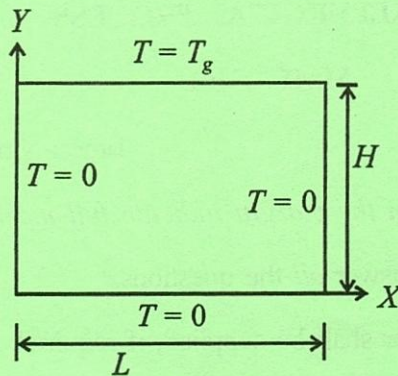

Figure 1
3. Derive an expression for steady state temperature distribution in an infinitely long rectangular bar, as shown in figure 1. The thermal conductivity (K) of the infinitely long rectangular bar is constant. 4 [CO2]